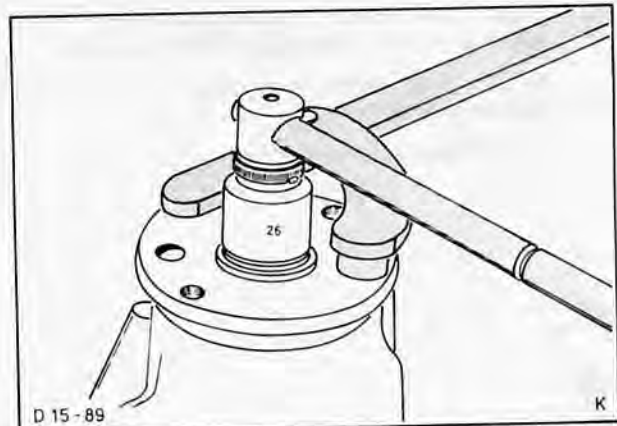

Fig. 58. Hold drive pinion flange with special tool no. 15-030
4. Remove drive pinion (1 nut). Hold flange with Special Tool No. 15-030 and unscrew nut, Fig. 58. Tap out drive pinion downwards with a copper hammer and detach flange.